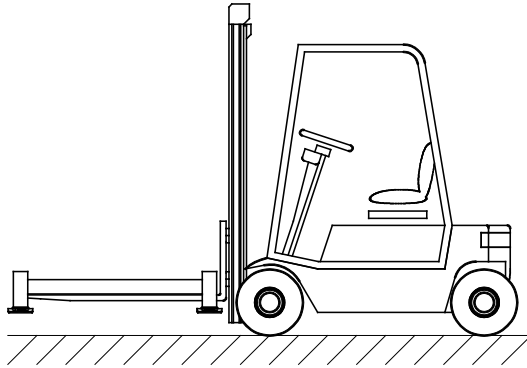
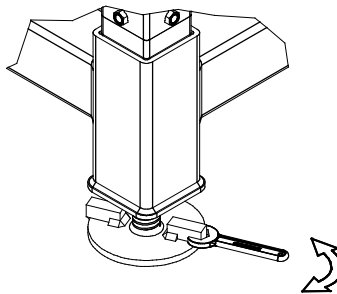

Figure 12. *Lifting the Bottom Frame with a fork lift truck.*
Figure 13. *Adjustment of the Foot height with a 22 mm spanner.*
1. Make sure that the ground, where the Loading System MkII is placed, is relatively flat. The Loading System MkII Base has adjustable feet which are designed to adjust within a 5 degree inclination. Use a fork lift truck to handle the Bottom Frame, place the forks underneath the horizontal tubes and spread the forks apart prior to lifting, see Figure 12. Place the Bottom Frame on the ground. Use a spirit level to make sure that the Bottom Frame is level. If not, rotate the feet by hand or use a 22 mm spanner or a hammer to strike on the Adjusting Bar to adjust the feet until the Bottom Frame is level, see Figure 13.